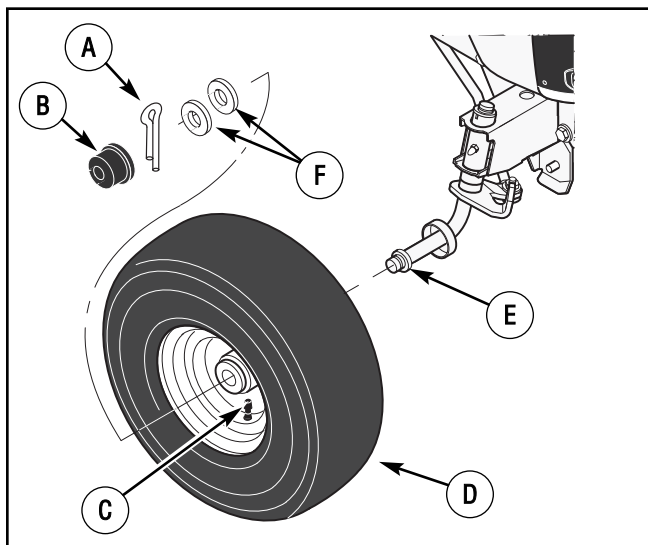

Figure 39: Front wheel assembly
1. Make sure the **valve stem** is to the outside of the tractor. Slide the **front wheel** on the **spindle** (See Figure 39).